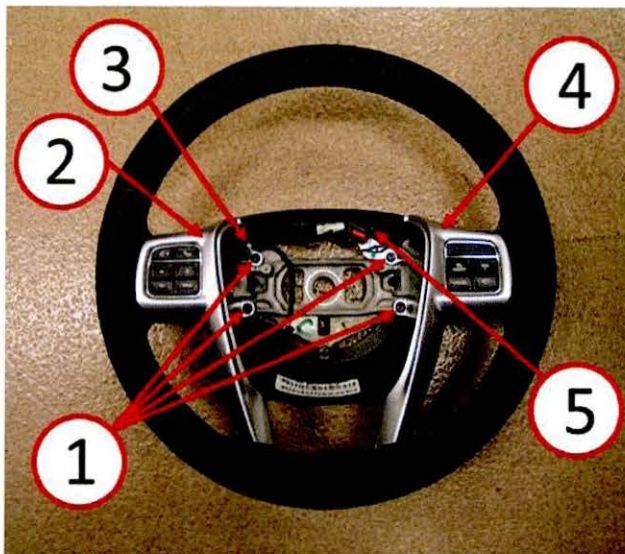

**Fig. 1 Bezel Screw Removal**
2. Remove the right and left steering wheel bezel screws from the back side of the steering wheel (Fig. 1).